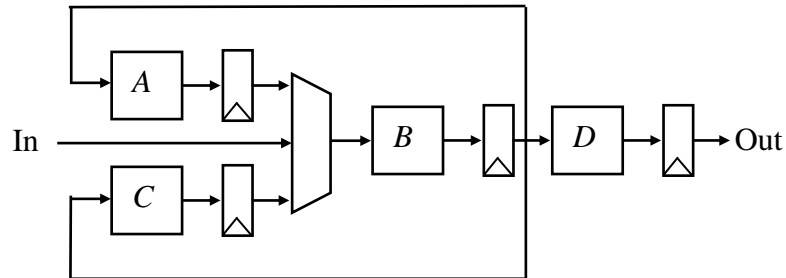

Figure 1: Pipelined System
1. A pipelined system is as shown in Figure 1: